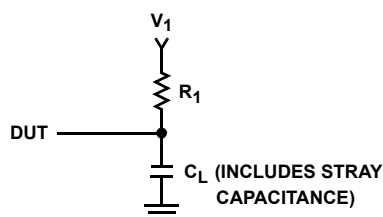

FIGURE 4.
- See Load Test Circuit, Figure 4, $R_1 = 10k\Omega$, $C_L = 50pF$.